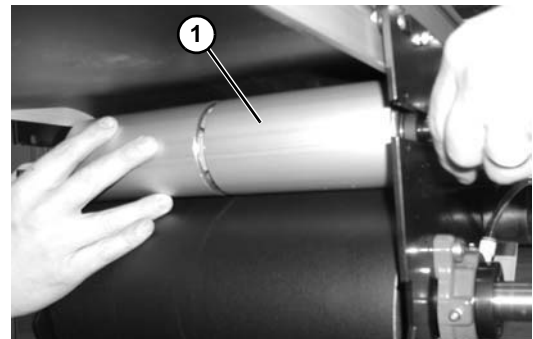

Figure 39
10. Slide out tensioning roller (**Figure 39, item 1**).